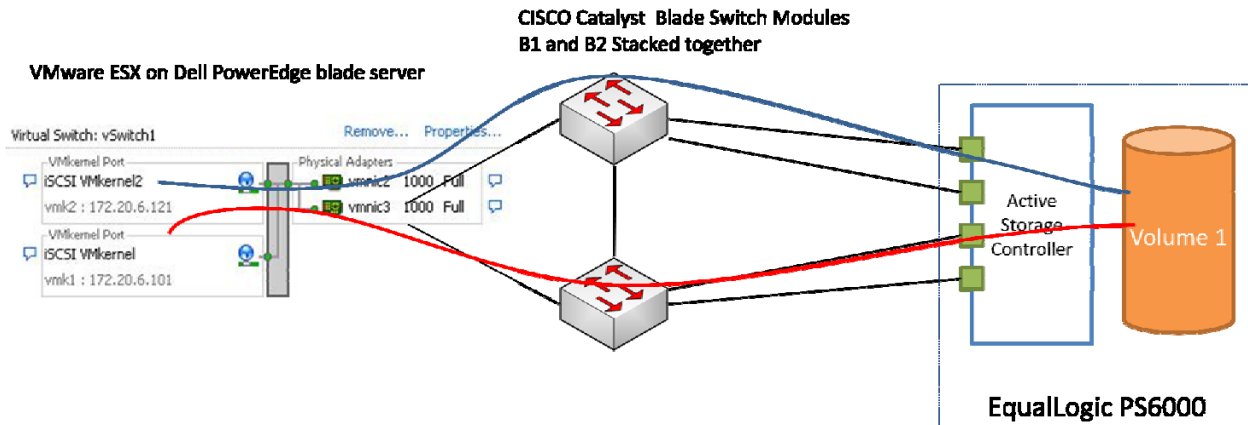

Figure 8: Multipathing using Round Robin
Multipathing is a technique that allows more than one physical path to be used to transfer data between a host and an external storage device. In version 4.0 of ESXi, VMware provides the VMware Native Multipathing Plugin. This plugin supports three Path Selection Plugins; Most Recently Used (MRU), Fixed, and Round Robin (RR). For a detailed discussion of iSCSI connections, see the VMware ESX/ESXi 4.0 “iSCSI SAN Configuration Guide”. In order to have multiple paths, you must create multiple VMkernel Ports for iSCSI. Figure 8 below shows two iSCSI VMkernel ports and multiple paths to storage. Each VMkernel port is associated with a dedicated physical NIC.